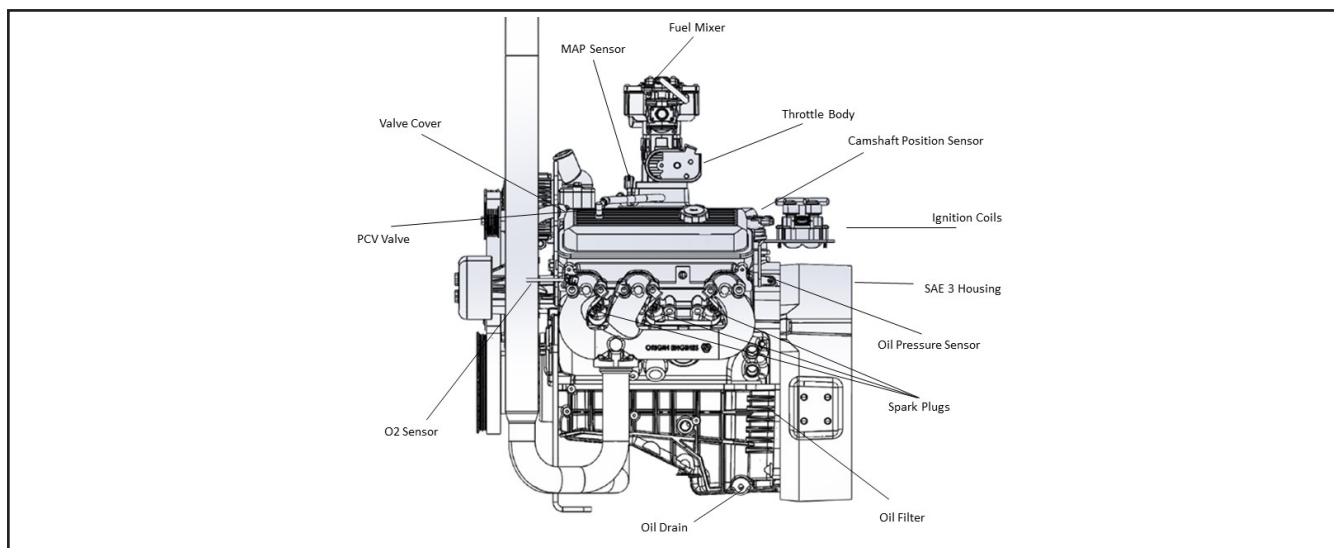

Figure 22 Oil Fill Cap
6. If the oil level is below the add mark, check for leaks. If no leaks are found, open the oil fill cap. Wipe the oil fill cap clean, and add oil up to the Full mark. See Figure 22.